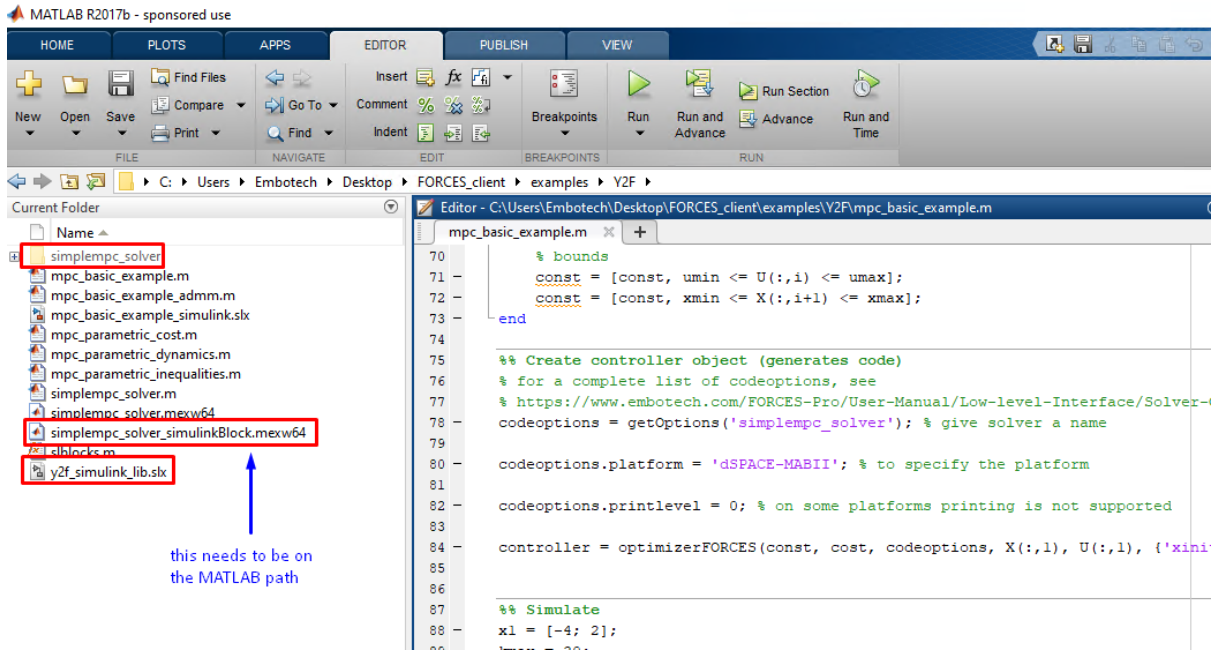

Figure 12.46: Add the folder containing the .mexw64 solver file to the Matlab path.
4. (Figure 12.46) Make sure the `simplempc_solver_simulinkBlock.mexw64` file (created during code generation) is on the Matlab path.